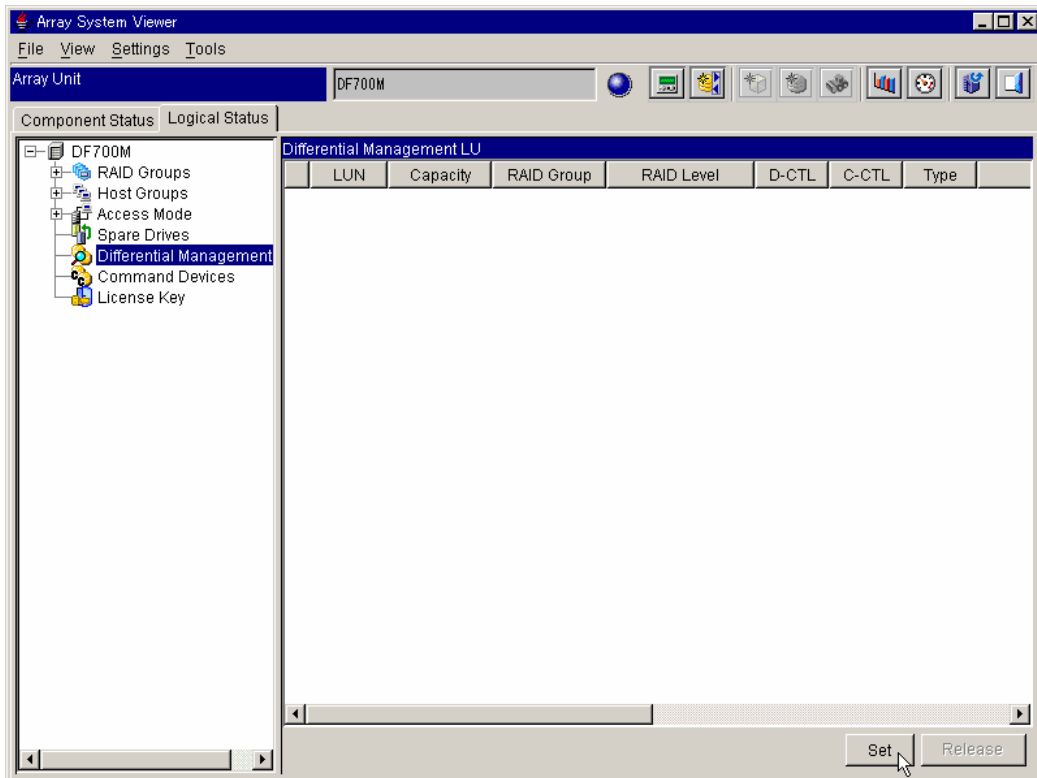

Figure 4.21 Selecting a Differential Management LU
2. Click the **Differential Management LU** icon (see Figure 4.21)